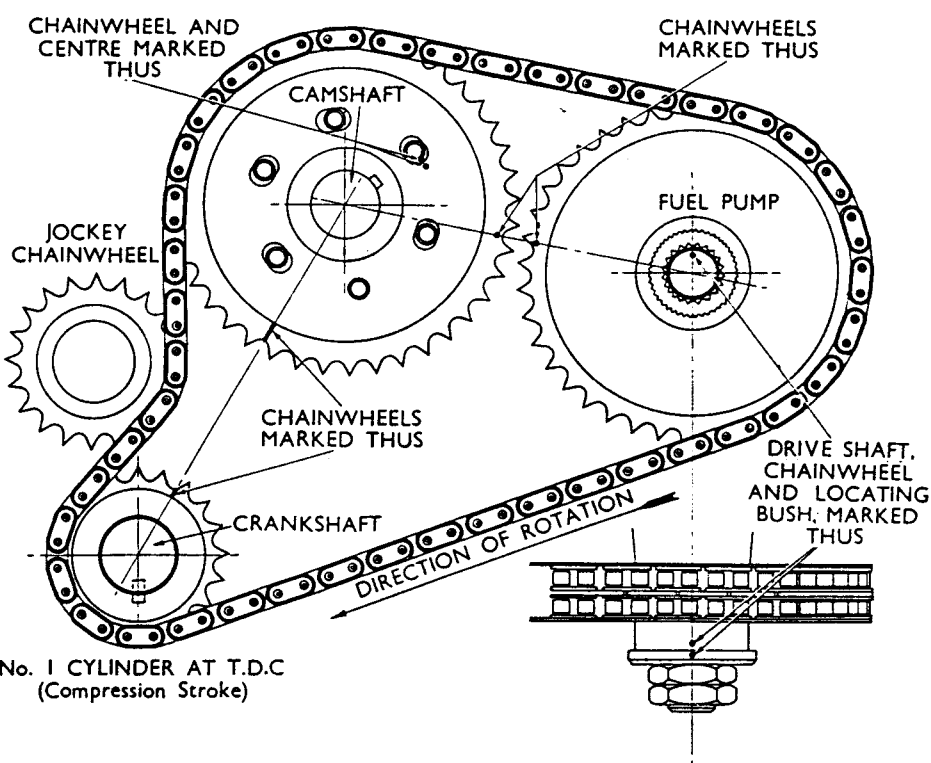

FIG. 131
6. If the camshaft chainwheel has to be extracted separately without its centre, first confirm that the chainwheel and centre are marked as indicated in Fig. 131, if not, mark both parts with punch dots as shown, otherwise resetting will be necessary (see under "Valve Timing B" paras 7 — 9). However, should the timing chain be renewed resetting will probably be required, see "Camshaft
**A.** The following procedure assumes that the adjacent teeth of the camshaft, crankshaft and fuel pump chainwheels are marked as shown in Fig. 131, when No. 1 inlet and exhaust valves are fully closed and with No. 4 inlet valve just opening and exhaust valve just closing.
4. Turn crankshaft clockwise through  $90^\circ$  and set keyway accurately at B.D.C., see Fig. 131, thereby bringing Nos. 1 and 4 pistons to T.D.C. Note also that the centre line of the key passes straight through the tooth diametrically opposite.
6. Secure camshaft chainwheel to centre, with punch dots coinciding, by means of six set screws on flat and lockwashers, accurately aligning scribe and punch marks of crankshaft, camshaft and injector pump chainwheels as shown in Fig. 131. Ensure all the slack links in the chain are between the crankshaft and camshaft chainwheels.
- B.** The following procedure assumes that neither crankshaft or camshaft chainwheels or the camshaft centre are marked as shown in Fig. 131.
6. Turn crankshaft clockwise through 90° and set keyway accurately at B.D.C., see Fig. 131, thereby bringing Nos. 1 and 4 pistons to T.D.C.
9. Fit locating screw and record the correct position by marking chainwheel and centre as shown in Fig. 131. Fit remainder of screws over flat and lockwashers.
10. With crankshaft and fuel pump chainwheels set as shown, mark camshaft and crankshaft chainwheels in positions indicated in Fig. 131, on lines passing directly through the middle of the crankshaft and injector pump drive shaft.
Any replacement or relocation of parts affecting valve and injector pump timing must be marked in accordance with Fig. 131.
To cater for this and allow for variations in chain length both in production and when fitting a service replacement, the chain-wheel is secured to its centre by six fixing screws and their spacing allows for  $1\frac{1}{2}^{\circ}$  stages of vernier adjustment. The chain-wheel has one positive hole and five elongated slots, punch dots as shown in Fig. 131, indicate the relationship.